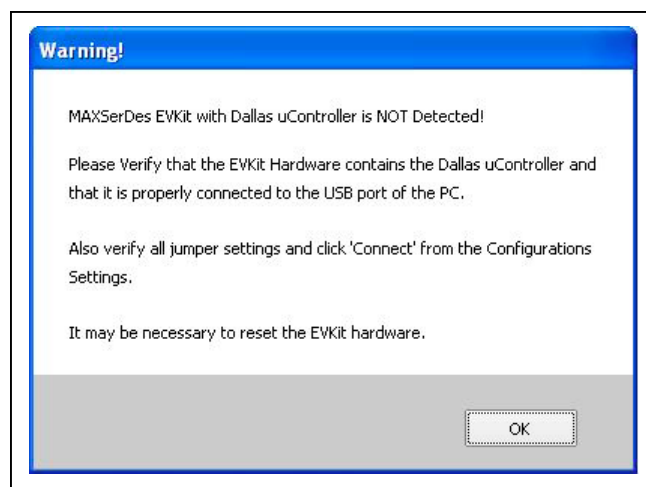

Figure 3. MAXSerDesEV-D Evaluation Kit Software (Warning!)
- 10) If an operating evaluation board with a Dallas microcontroller is not found, a window opens warning as such (see Figure 3). Press **OK** to continue and start the GUI anyway, or press **Cancel** to terminate the application. See the Troubleshooting section at the end of this document to fix the problem before continuing. When an operating Dallas microcontroller is found, the GUI searches for active listeners with known **Device ID** code. If found, the GUI identifies the device under test (DUT) and displays the corresponding list of jumpers on the EV board that must be set for the board to operate as desired.